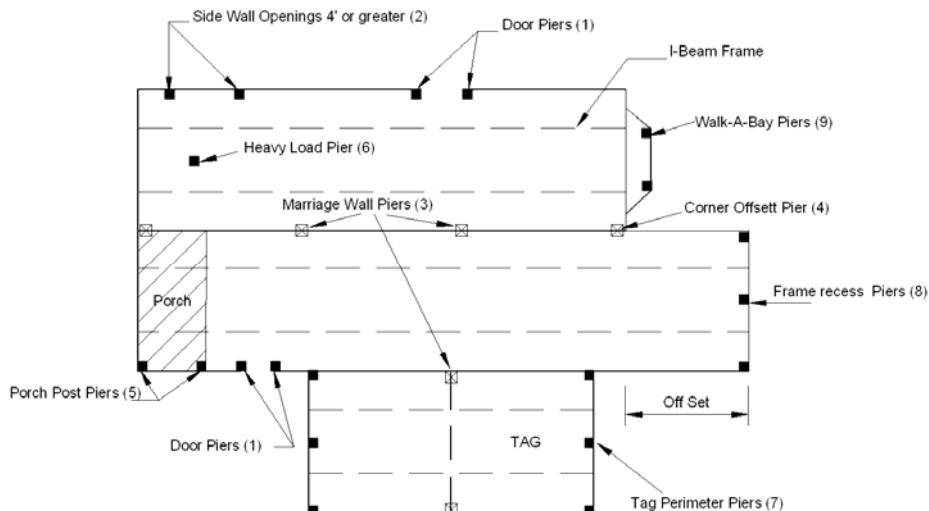

Figure 8. Typical point-load support locations
- (2) Other exterior wall openings four feet and greater at both sides of each opening (including multiple windows that total four feet wide or more without intermediate supports, even if individual windows are less than four feet).
- (3) Marriage line openings four feet or greater at both sides of each opening (when home has perimeter blocking and marriage line openings are greater than 10 feet, intermediate supports must be placed at maximum 10 feet on center).
- (4) Marriage line pier at corner of offset.
- (5) Load-bearing porch posts.
- (6) Under heavy (400 lbs or greater) items, such as heavy furniture, waterbeds, fireplaces and large fish tanks.
- (7) Tags require 3 perimeter piers under each end as shown in Figure 8.
- (8) Perimeter piers required under front and rear of homes with front cross member and rear frame recessed over 9 inches.
- (9) Pier each end of walk-a-bay over 16 inches out from home.
- Offset shall be tied down and pierced as a single section for that portion of the home. Also, pier shall be placed at the inside corner where floors join (ref. point 4 in Figure 8).
Mark the required point load support locations on the sketch. Supports are not required where the manufacturer has reinforced the floor (such as with additional outriggers or floor joists) and so noted in the documentation provided with the home. Figure 8 and Figure 9 identify typical point load support locations.